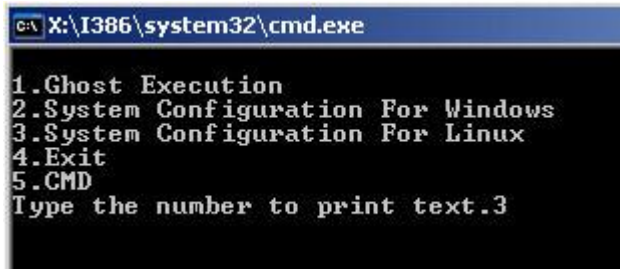

Figure C-23: System Configuration for Linux
Step 4: Build-up recovery partition. Press any key to boot from the recovery CD. It will take a while to launch the recovery tool. Please be patient. When the recovery tool setup menu appears, type <3> and press <Enter> (**Figure C-23**). The Symantec Ghost window appears and starts configuring the system to build-up a